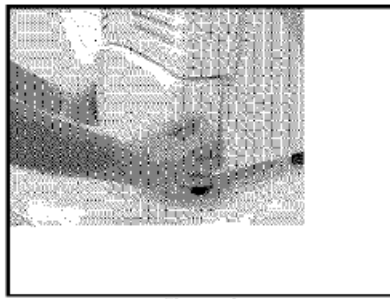

Figure 2
1. Grasp the bucket from both sides at the bottom, gently lift it up and slide halfway out until the handle is exposed. See Figure 2.
- If you want the water to flow directly to a drain, you must first remove the hose cap (Figure 2).